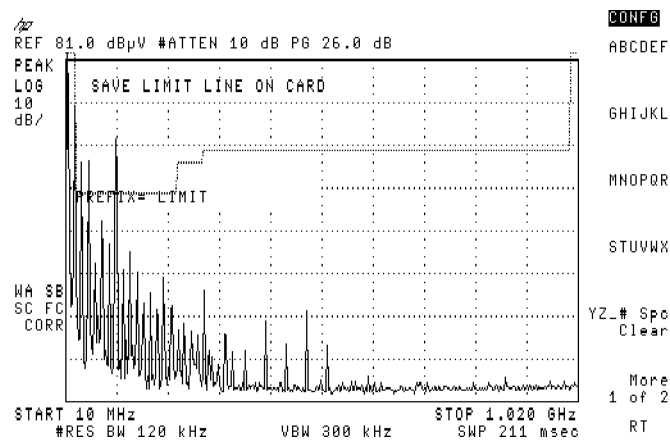

Figure 3-77. Changing the Prefix
5. Press **Change Prefix**. See Figure 3-77.